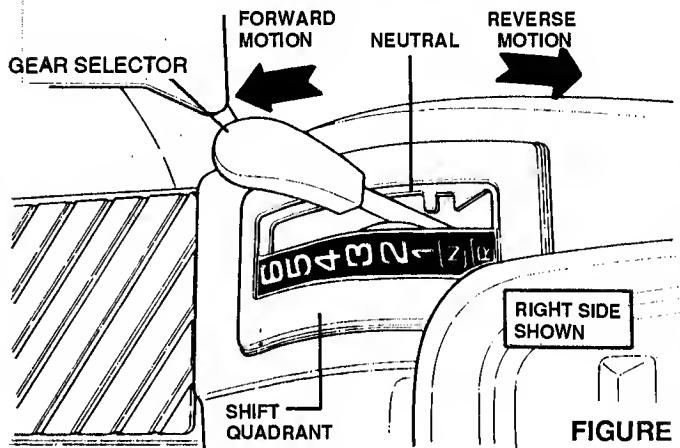

FIGURE 6
- Shift GEAR SELECTOR forward for **FORWARD** motion or to the rear for **REVERSE** motion. Refer to Figure 6.
Check the battery once each month. Remove the caps and add distilled water as necessary to bring the level of the electrolyte up to about 3/32" over plates in each cell. **DO NOT FILL TO THE RINGS.** Carefully reinstall battery caps. In freezing weather, charge the battery after adding water to thoroughly mix the water in the electrolyte. Keep the terminals and cables clean and tight and make sure the red boot (shown in Figure 6) remains in position over the positive (+) terminals. Always disconnect black cable from negative (-) terminal first and reconnect last!